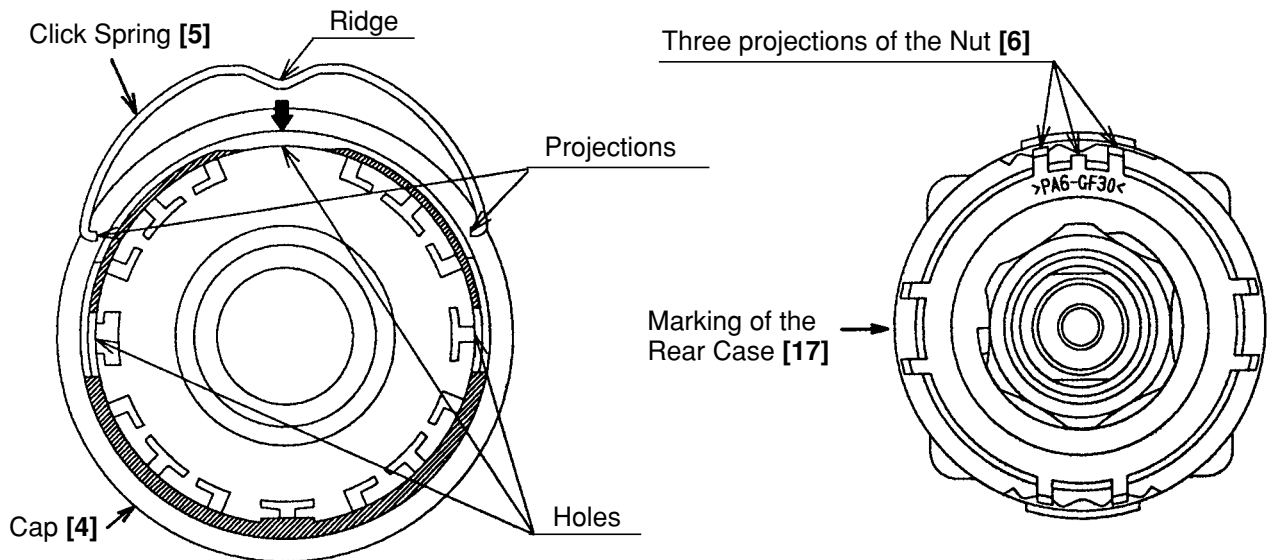

Fig. 12
- (g) Install the Click Spring [5] and the Cap [4] to the assembly reassembled in step (f). (See Fig. 12.)
- (ii) When the Nut [6] is screwed in the Front Case [9] about one and a quarter turns, the three projections of the Nut [6] and the marking of the Rear Case [17] are positioned as shown in Fig. 12. Mount the Cap [4] aligning the ridge of the Click Spring [5] with the three projections of the Nut [6].